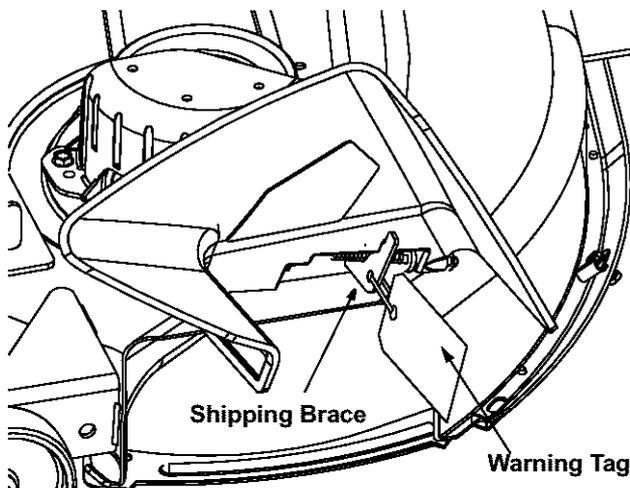

Figure 1
- Locate the shipping brace and accompanying warning tag on the right side of the tractor, between the discharge chute and the deck. See Figure 1.